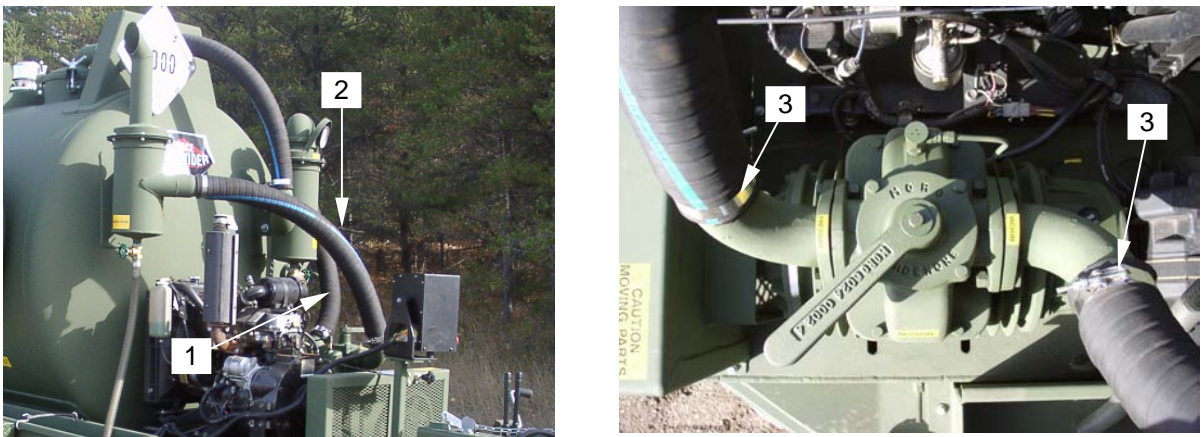

Figure 2. Removing Air Hoses
11. Loosen hose clamps on vacuum pump hose (**figure 2, item 1**) and breather hose (**figure 2, item 2**) at vacuum pump ports (**figure 2, item 3**). Remove hoses.